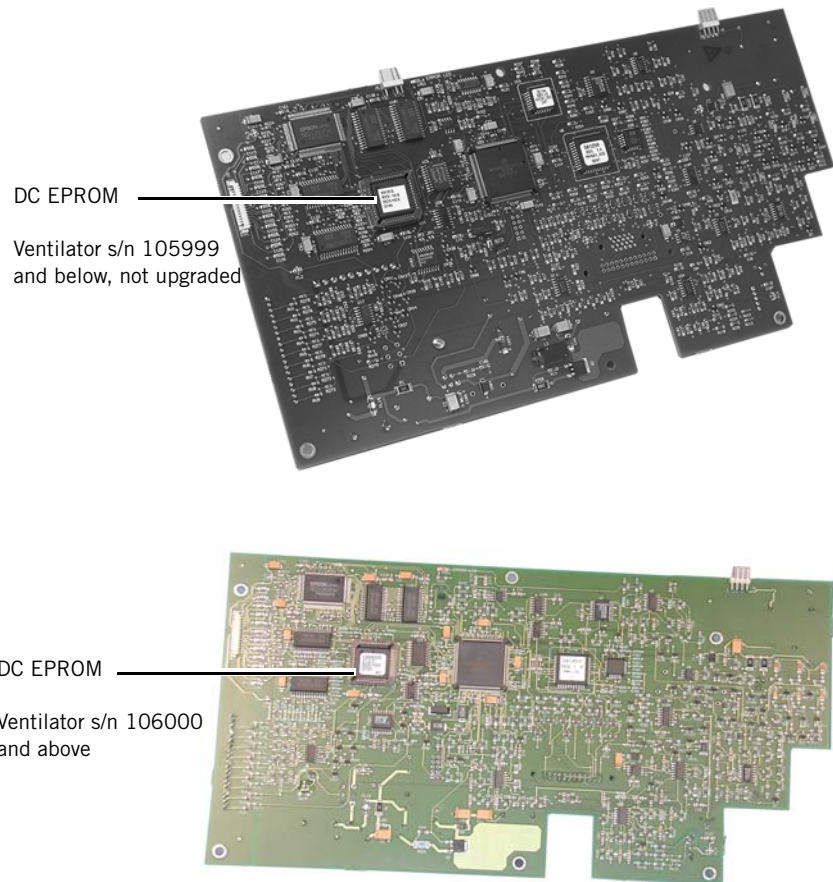

Figure 8-1: DC Board EPROM Location
2. Use the extraction tool to remove the existing EPROM (Figure 8-1 shows the EPROM location on the board) and store in an antistatic container if required.